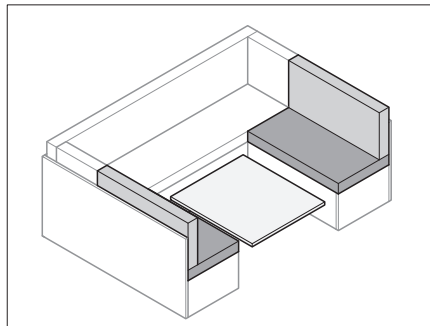

Fig. 70 Converting the table
- Convert the table (Fig. 70) into a bed foundation (see Section 7.7).